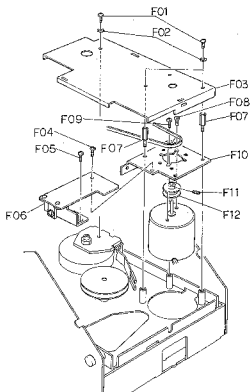

Fig. 3.10
Refer to Fig. 3.10. Remove mechanism ass'y referring to item 3.6. Remove F01 through F03 (shield cover) and F04 through F06 (motor governor). Dismount F07 and F08, and lift motor, and then remove F09 and F10. Loosen F11 and remove F12 and motor.